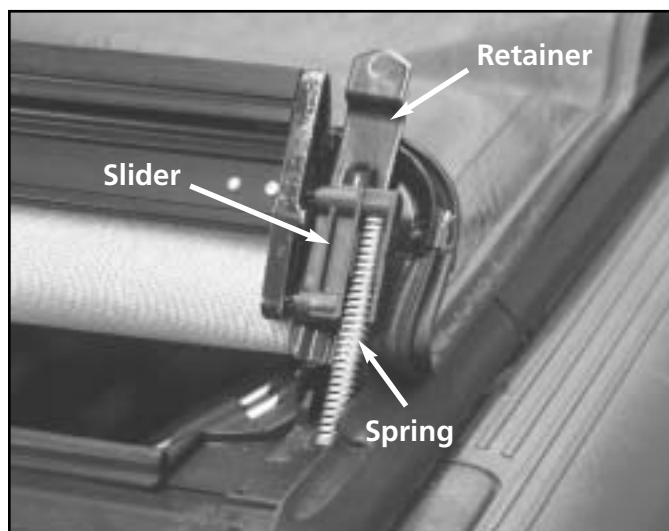

Figure S-40
2. Lift the front cover reinforcement up and back being careful not to loose the sliders, slider springs and slider retainers. See figure S-40.
20. Fold the front cover reinforcement down over the motor cover and reinstall the sliders (2), slider retainers (2), and the slider springs onto the front reinforcement. Refer back to figure S-40.